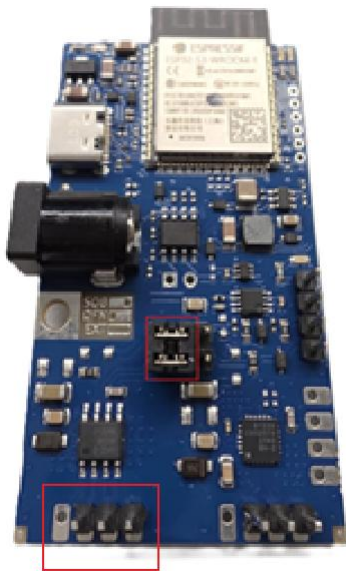

Figure 1: MCM81339 SO8 jumper and pin header position
- Your motor: note that your 3 phase BLDC motor needs to be connected to the U, V and W pins of the pin header located close to the SO8 chip (See Figure 1). The MCM81339 T-phase pin is not in use.